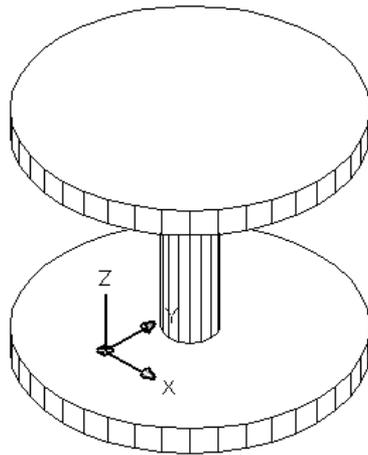

Figure 21-15: A cable spool created by drawing 2D circles with thickness and elevation.
12. Save your drawing. It should look like Figure 21-15.
Except for certain true solids, much of 3D work starts with a 2D shape. However, the 2D drawing commands can be drawn only on, or parallel to, the XY plane. The spool in Figure 21-15, for example, consists of three circles, all parallel to the XY plane. How do you draw a circle, or any other 2D object for that matter, that is not parallel to the XY plane?